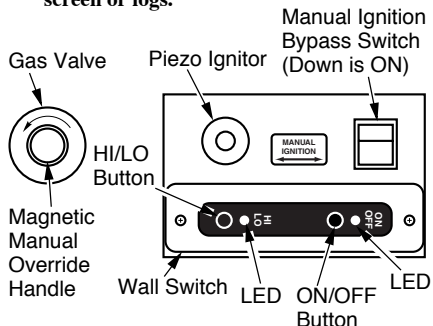

Figure 54 - Control Locations
2. Set manual ignition bypass switch on control panel to ON position (manual ignition position). See Figure 54.
- Place the magnetic manual override handle, provided with this unit, on the end of the gas valve stem (see Figure 54, page 27).
- While holding the valve handle in the PILOT position, press and release piezo ignitor button (see Figure 54, page 27). This will light the pilot. If needed, keep pressing ignitor button until pilot lights.